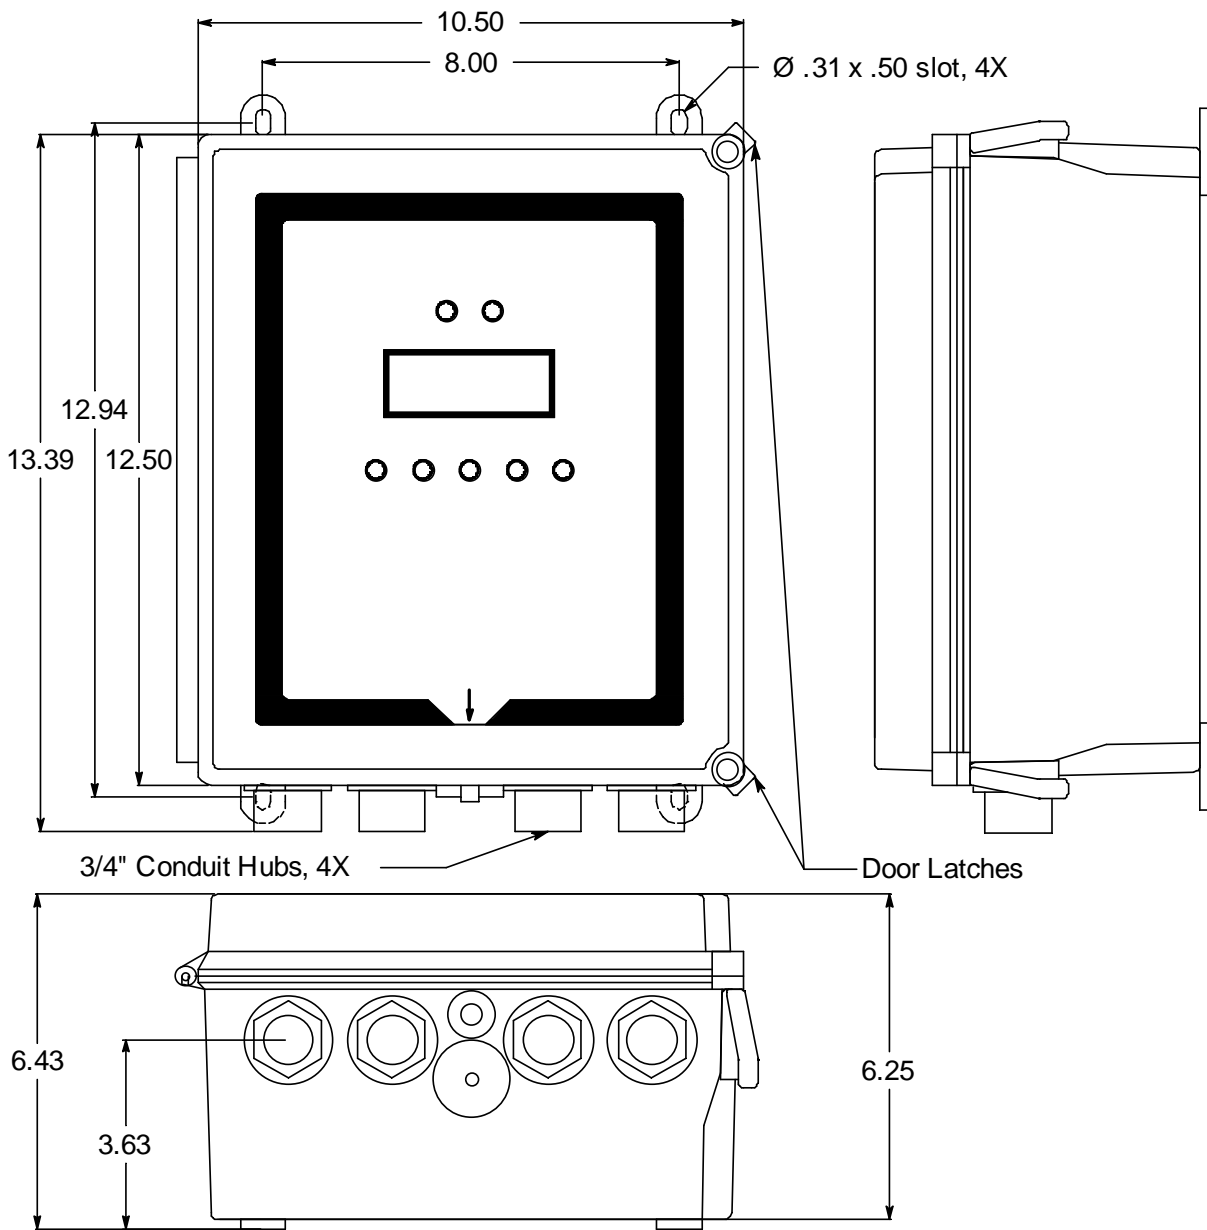

Figure 9: Beacon 410A Gas Monitor Outline and Mounting Dimensions
The Beacon 410A can be ordered with an alarm strobe light installed on the top of the housing. The Beacon 410A retains its NEMA 4X rating with the strobe installed. Strobe operation can be programmed in Configuration Mode (see “Chapter 6: Configuration Menu” on page 46). The outline and mounting dimensions with the alarm strobe are the same as the standard Beacon 410A with the exception of the height. The difference is shown below. See Figure 9 for all outline and mounting dimensions.
3. The Beacon 410A is shipped with the mounting feet positioned under the housing. Loosen the screws that secure the feet to the housing, rotate the feet to their mounting position as shown in Figure 9, then tighten the screws.
4. Prepare the selected mounting site as required to mount the Beacon 410A. It should be mounted at eye level (4 1/2 to 5 feet from the floor). Refer to Figure 9 for the outline and mounting dimensions.